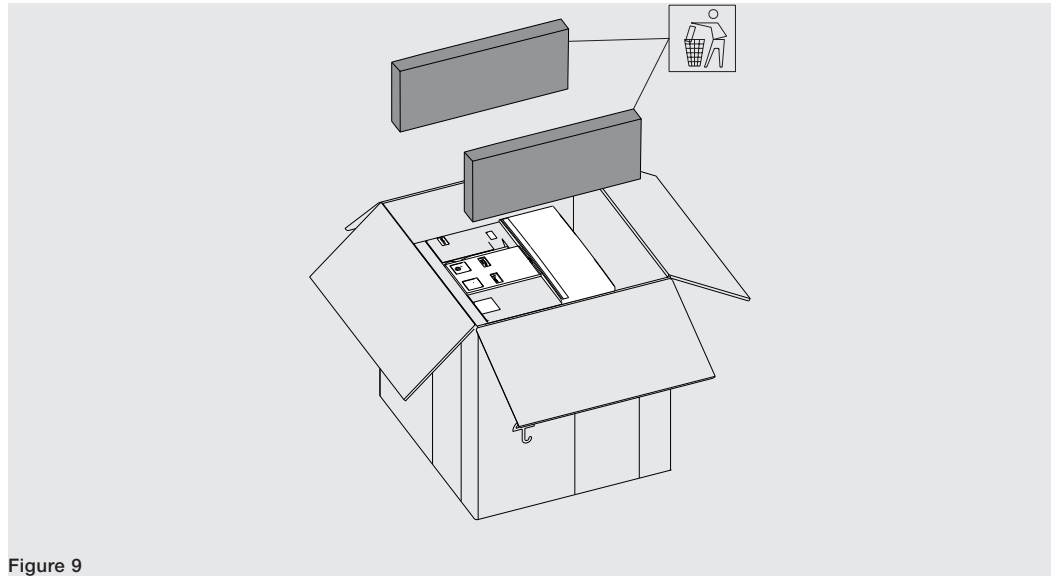

Figure 9
3. Remove the side containment protections from the packing box. See Figure 9.